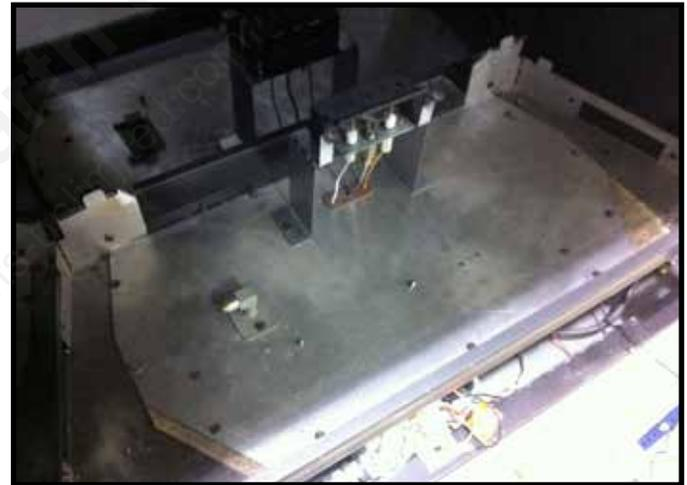
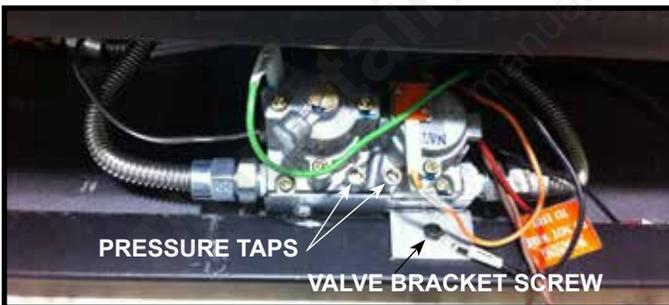

Figure 11.2. Remove Valve Plate Screws
Figure 11.5 Valve Pressure Taps
1. Remove eleven screws around perimeter of valve plate as well as valve bracket screw. See Figure 11.2 and Figure 11.5.
The pressure taps are accessible through the front of the appliance. The decorative mesh front and fireplace gas assembly must be removed to gain access to the pressure taps. See Figure 11.5.